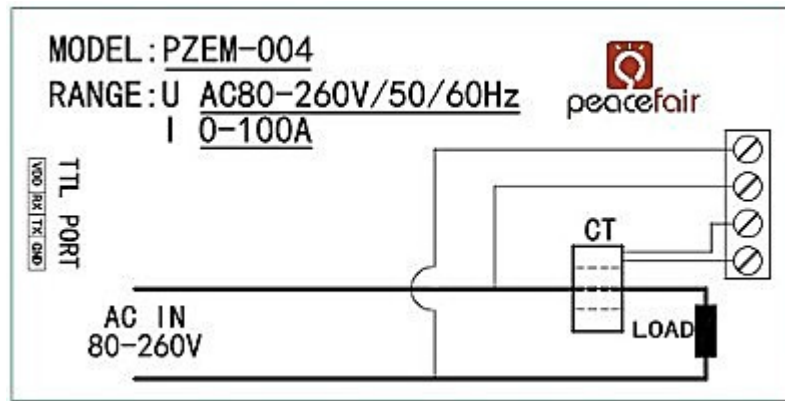

Figure 1 Wiring diagram
The wiring of this module is divided into two parts: the voltage and current test input terminal wiring and the serial communication wiring, as shown in Figure 1; according to the actual needs of the clients, with different TTL pin board to achieve communicate with different terminals.
1. Connect hard wire according to the wiring diagram in figure 1 and 2.